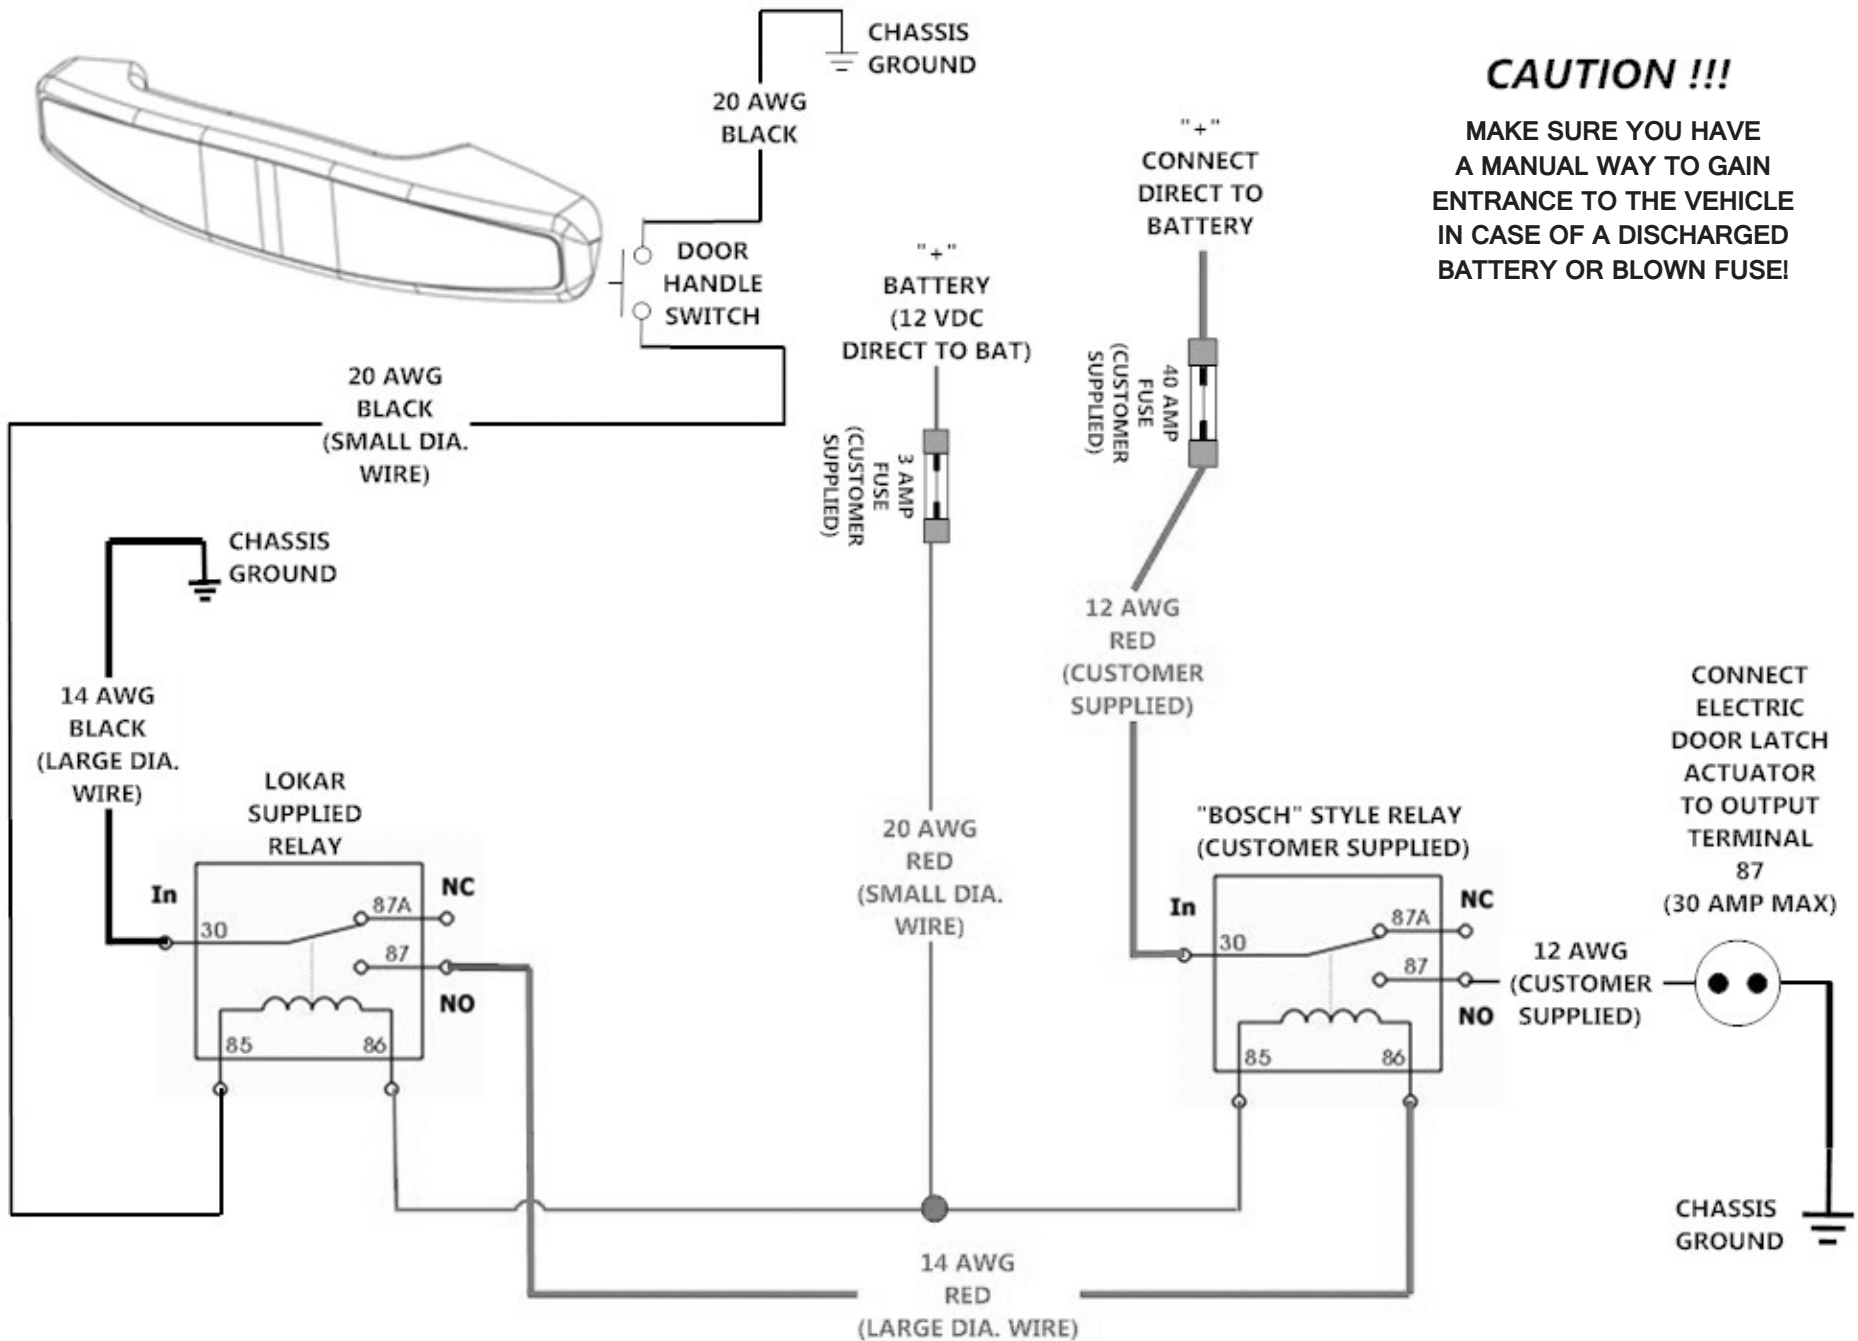

Fig. 7
Step 6: The Lokar Door Handle is designed to work with a common five terminal, "Bosch" style relay (not supplied) that connects to the electric door solenoid. Refer to the supplied wiring diagram. **Fig. 7**